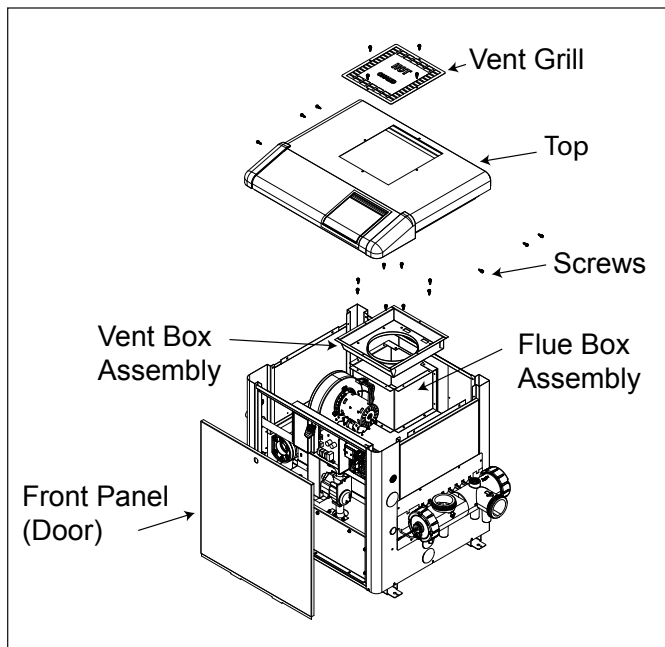
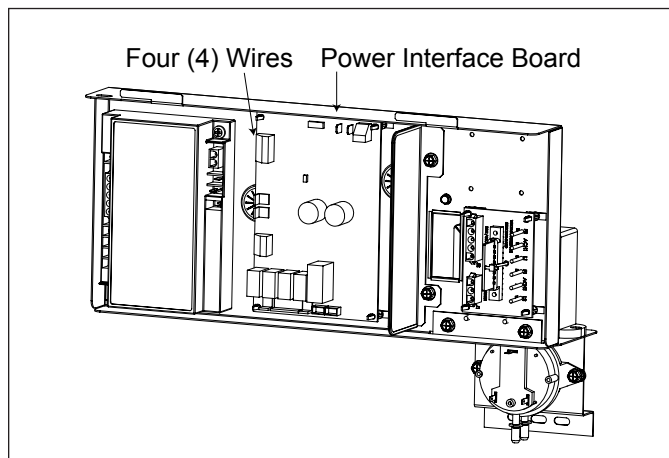

Figure 1. Accessing the Vent Box Assembly
Figure 2. Control Panel
5. Remove the four (4) screws that secure the vent grill. Remove the vent grill. See Figure 1.
6. Disconnect the four (4) wires of the universal controller from the power interface. These wires (Black, Orange, Blue and Red) are identified on the power interface board as "User Interface 1." The power interface board can be found on the control panel. See Figure 2.
7. Remove the six (6) screws that secure the top assembly to the cabinet. See Figure 1. Remove the top assembly.
8. Remove the eight (8) screws that secure the flue to the vent box.
11. Secure the flue box to the vent box using eight (8) screws.
12. Secure the top assembly to the cabinet using six (6) screws.
13. Connect the four (4) wires of the universal controller to the power interface board. These wires (Black, Orange, Blue and Red) are identified on the power interface board as "User Interface 1". The power interface board can be found on the control panel. See Figures 2 and 3.
14. Replace the top and secure the vent grill in place with four (4) screws. See Figure 1.